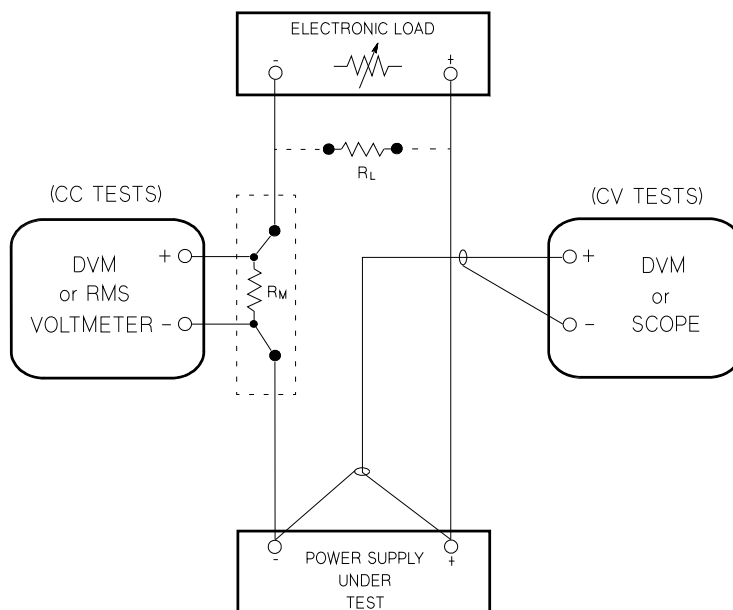
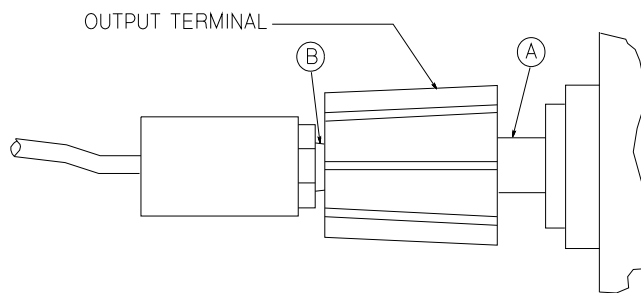

Figure 3-1. Performance Verification Test Setup
Figure 3-2. Front Panel Terminal Connections (Side View)
To eliminate output current measurement error caused by the voltage drops in the leads and connections, connect the current monitoring resistor between the (-) output terminal and the load as a four-terminal device. Connect the current-monitoring leads inside the load-lead connections directly at the monitoring points on the resistor element (see R_M in Figure 3-1).
- 1 Turn off the power supply and connect a digital voltmeter between the (+) and (-) terminals of the output to be tested as shown in Figure 3-1.
- 1 Turn off the power supply and connect a digital voltmeter between the (+) and (-) terminals of the output as shown in Figure 3-1.
- 4 Operate the electronic load in open mode (input off). Record the output voltage reading on the digital voltmeter immediately. The difference between the digital voltmeter readings in steps (3) and (4) is the CV load regulation. The difference of the readings during the immediate change should be within the limit of (4 mV)* or (7 mV)**.
- 6 Adjust the transformer to high line voltage (127 Vac for nominal 115 Vac, 110 Vac for nominal 100 Vac, or 253 Vac for nominal 230 Vac). Record the voltage reading on the digital voltmeter immediately. The difference between the digital voltmeter readings in steps (5) and (6) is the CV line regulation. The difference of the readings during the immediate change should be within the limit of (4 mV)* or (7 mV)**.
When measuring Vrms ripple and noise, the monitoring device should be plugged into the front of the terminals at (B) in Figure 3-2. Use the coaxial cable and BNC female to banana plug adapter to connect the monitor device to the power supply. To reduce the measurement error caused by common mode noise, it is recommended that you use a common mode choke between the cable and the BNC adapter. The common mode choke is constructed by inserting coaxial cable into Ferrite Toroidal core. The load resistor should be connected to the terminal at (A) in Figure 3-2. Twisted leads between the load resistor and the power supply helps reduce noise pickup for these measurements.
- 1 Turn off the power supply and connect the output to be tested as shown in Figure 3-1 to an oscilloscope (ac coupled) between (+) and (-) terminals. Set the oscilloscope to AC mode and bandwidth limit to 20 MHz. Connect a resistive load (2.0 Ω)* or (12.5 Ω)** to the terminal at (A) in Figure 3-2.
- 1 Turn off the power supply and connect the output to be tested as shown in Figure 3-1 with an oscilloscope. Operate the electronic load in constant current mode.